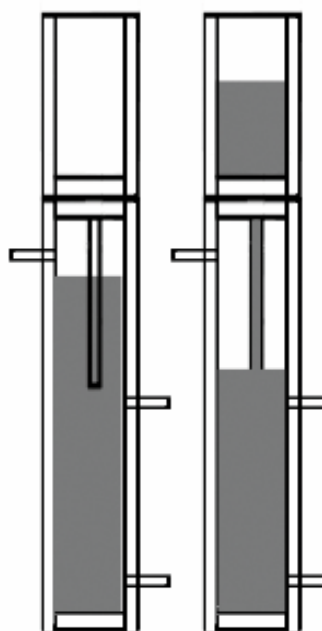

Fig. 4 Water rises during hydrogen storage
5. Wait until the water rises in the hydrogen side of the small top-tube of the water tank tube to about 1.6" (4cm) Fig 4.